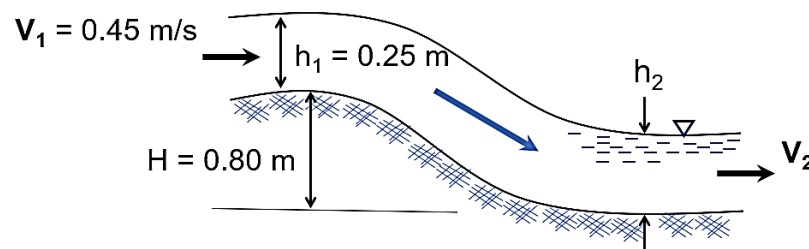

Figure 6: Water flows down sloping ramp
4. (a). As shown in **Figure 6**, the water flows down the sloping ramp from Point 1 to Point 2 with negligible viscous effect. Both flow are uniform at velocity at Point 1 is 0.45 m/s. At upstream depth at Point 1 is 0.25 m and the downstream depth for Point 2 can be determine by using 3 solution derived using Bernoulli dan continuity equation. However, only two solutions are realistic to calculate the value of h_2 and V_2 . Determine these values.